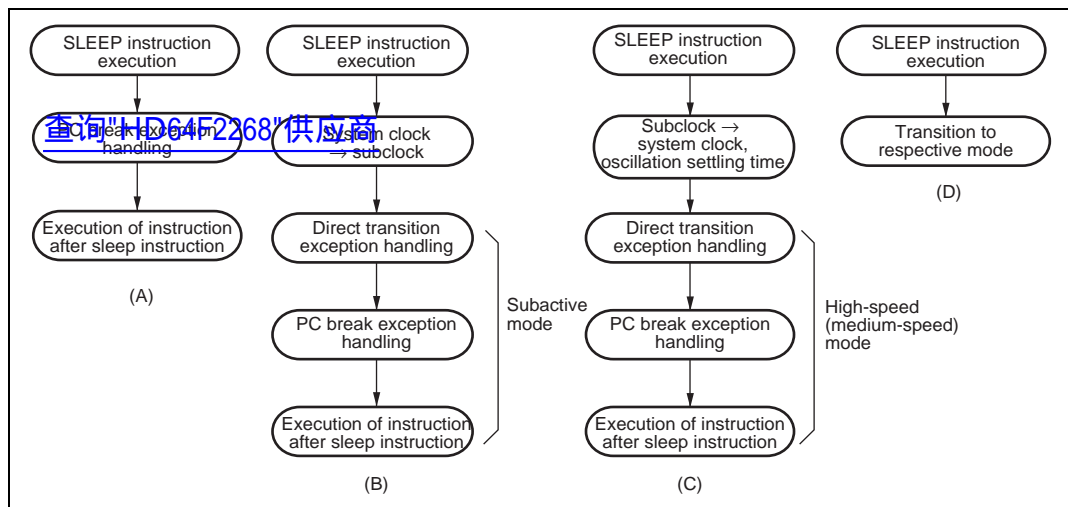

Figure 6.2 Operation in Power-Down Mode Transitions
After execution of the SLEEP instruction, a transition is not made to sleep mode, and PC break interrupt handling is executed. After execution of PC break interrupt handling, the instruction at the address after the SLEEP instruction is executed (figure 6.2 (A)).
- When the SLEEP instruction causes a transition from high speed mode to subactive mode (figure 6.2 (B)).
- When the SLEEP instruction causes a transition from subactive mode to high speed (medium speed) mode (figure 6.2 (C)).